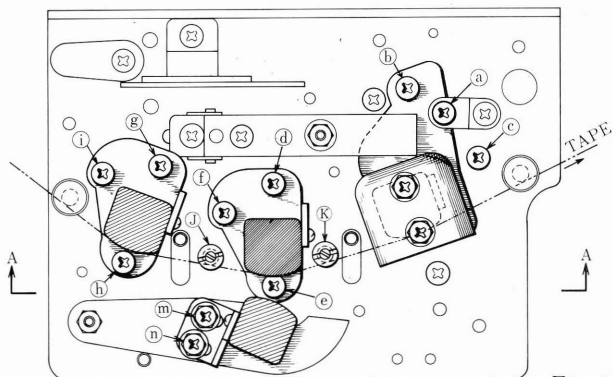

Fig. 1
Use a Pre-recorded tape (16 KHz, 7-1/2 ips), and connect a highly sensitivity V.T.V.M. to the line output jack. Adjust Screw (C) (Figure 1) so that line output voltage is maximum.
Connect an Audio Oscillator to the line input jack and record 16 KHz Signals at a -10db recording level and depress the Monitor "TAPE" Button. Adjust Screw (f) (Figure 1) so that the indicated V.T.V.M. value applied to the line output jack is maximum.